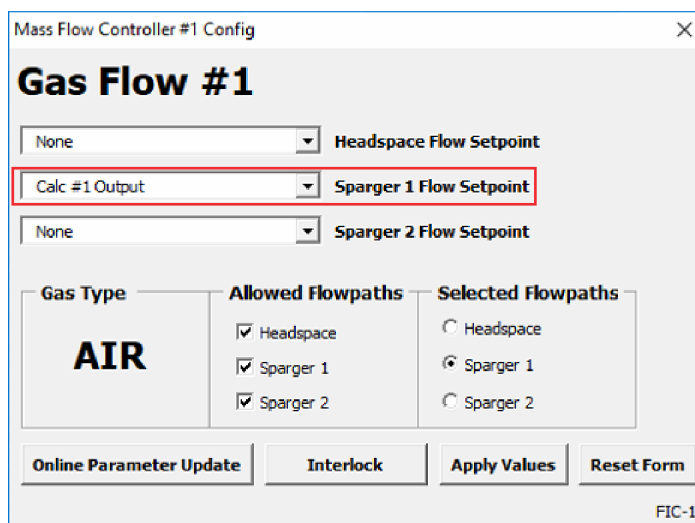

Figure 5.10. Selecting Calc #1 Output from the Sparger 1 Flow Setpoint dropdown list.
2. Use the dropdown menu for the sparger that is connected to the air supply. Set the **Flow Setpoint** to **Calc #1 Output** (Figure 5.10).